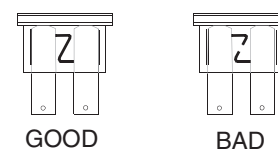

Figure 39
Fuses are installed to protect the tractor's electrical system from damage caused by excessive amperage. Always use the same capacity fuse for replacement. If the electrical system does not function, check for blown fuses. See Figure 39
- Pull the fuse from the fuse holder, check the fuse per Figure 39 and, if necessary, replace with the same capacity fuse — 30 amps for the main fuse and 5 amps for the timer fuse. **Never use a higher amperage fuse.**